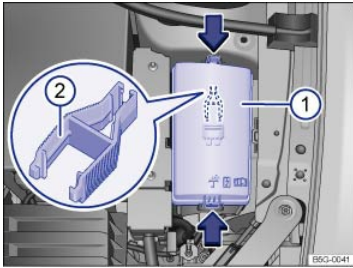

Fig. 148 In the engine compartment: Fuse box cover ① with tweezers ②.
- To *remove*: Press the release tabs in the direction of the arrows ⇒ Fig. 148 to unlock the fuse box cover ①.
In some vehicles, there are plastic tweezers for removing fuses on the inside of the fuse box cover ⇒ Fig. 148②.